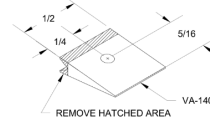

FIGURE 2: WEDGE TOOL FABRICATION
- Step 1: Cut a length of VA-140 Trailing Edge to the length shown in Figure 2, centered on a .094 hole.
- Step 2: Remove the hatched area from the length of VA-140 Trailing Edge as shown in Figure 2.